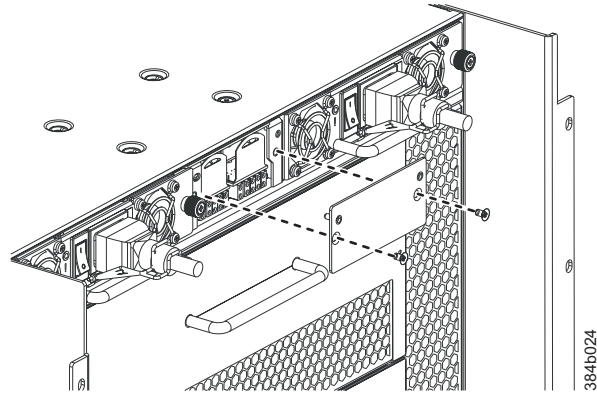

Figure 40. WWN bezel and card removal and installation
5. Remove the two screws from the WWN bezel . Pull the bezel away from the chassis and set it aside (see Figure 40 on page 89). The WWN cards and their status LEDs are visible.
4. Install the WWN bezel. Orient the bezel on the chassis (Figure 40). Insert and tighten the two screws.